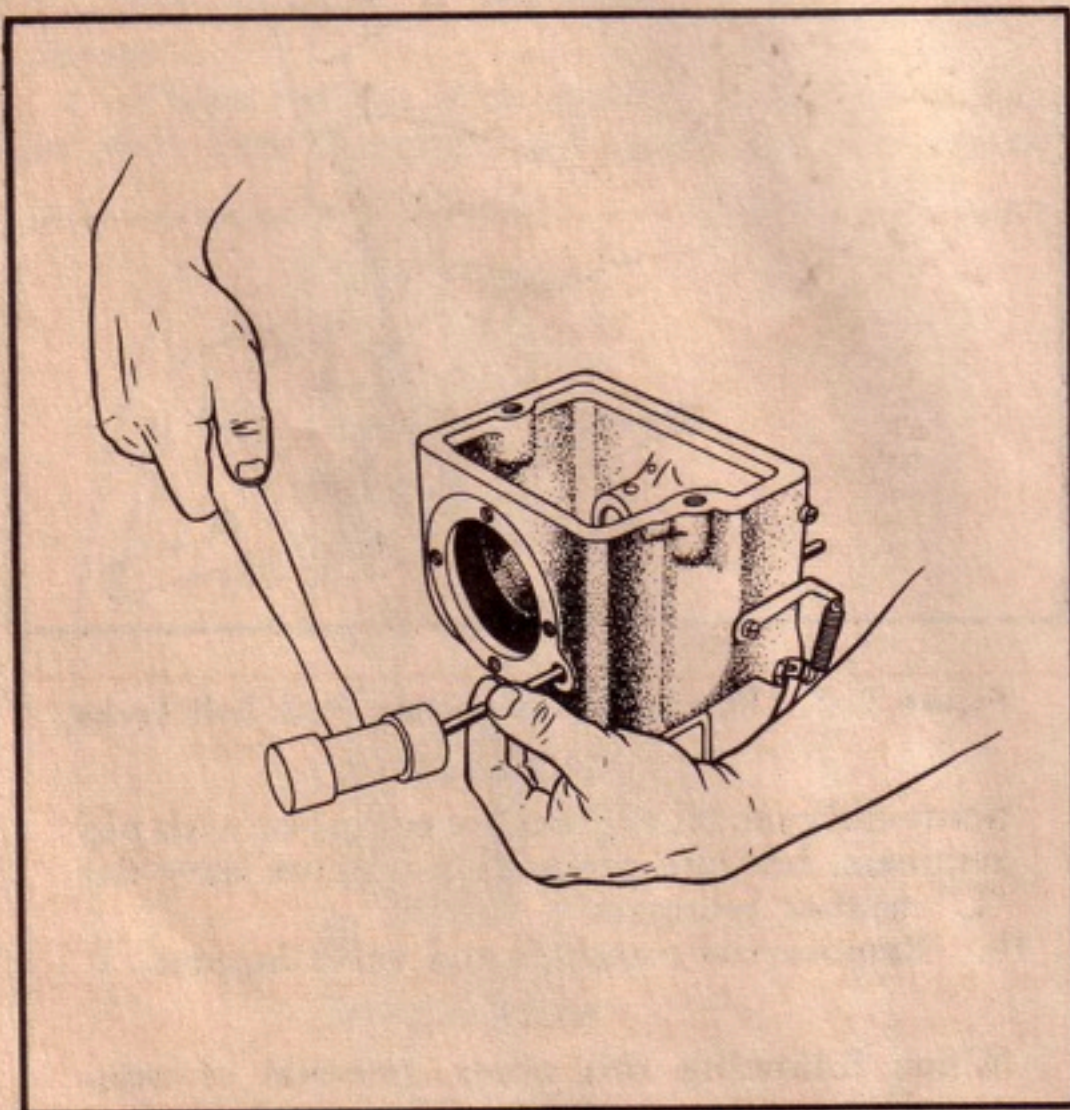

Figure C-3. Removing Camshaft Axle
5. REMOVAL OF CAMSHAFT AXLE (See figure C-3.)
b. In this way, as soon as the axle is free of the bearing plate side of the block it will slide out of the opposite side with ease. (See figure C-3.)